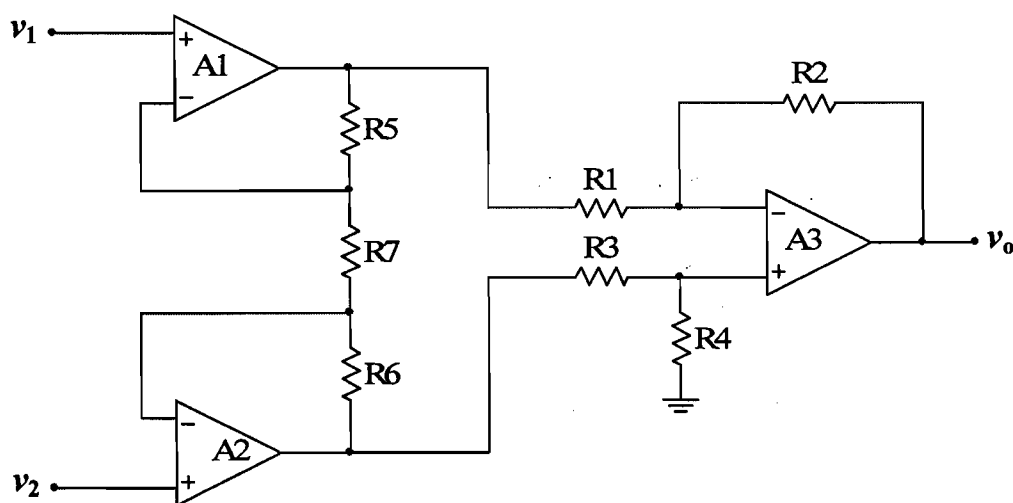

Fig.Q2
Consider the three-opamp configuration of an instrumentation amplifier (IA) shown in Fig. Q2. The amplifier is used for amplifying the output of a differential pair of electrocardiograph skin electrodes fed in as signal inputs v_1 and v_2 . The opamps A1, A2, A3 may be assumed to be ideal.